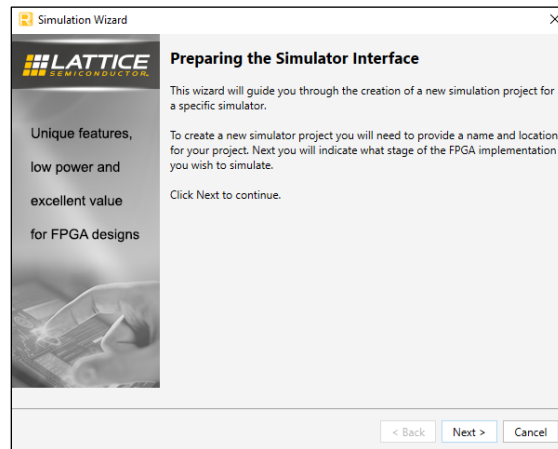

Figure 7.9. Simulation Wizard (View 1)
- Click the  button located on the **Toolbar** to initiate the **Simulation Wizard** shown in Figure 7.9.